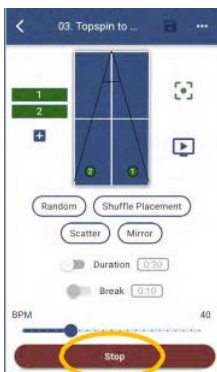

Figure 3-28
4. Push the **Start Drill** button on the bottom of the screen to start the Drill. Once the Drill has started, the Start Drill button will change to a Stop Drill button (Figure 3-28).